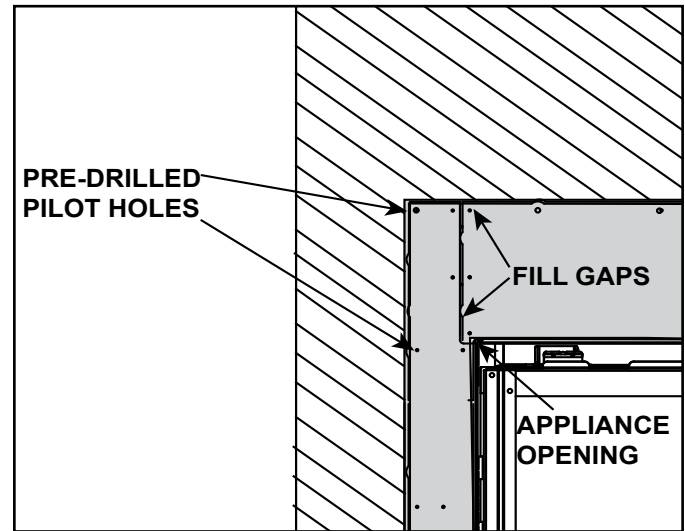

Figure 10.1 Install Non-Combustible Board
The factory-supplied non-combustible board must be used in all installations. It must be directly attached to structural framing adjacent to the appliance. Screw fasteners should be installed in the pilot holes provided in the outer perimeter of the non-combustible board. See Figure 10.1 and Figure 10.2.
3. The outer perimeter of the factory-installed non-combustible board has pre-drilled pilot holes. See Figure 10.1. Secure the non-combustible board to adjacent framing with drywall screws that are a minimum of 1-1/4 inch in length. Care should be taken not to tighten these screws into the non-combustible board excessively. Set screws flush to the face of the non-combustible board. See Figure 10.2 and Section 6.D.
4. When installing drywall around the appliance, install a rectangular hole for the fireplace/non-combustible board in a single sheet of drywall. This will minimize the joints that require finishing adjacent to the fireplace opening. Ensure that the 1/8 inch gap is maintained between the factory installed non-combustible board and the surrounding drywall. See Figure 10.1. Secure the drywall to the framing with screws a minimum of one inch in length every six inches across the top of the fireplace and every ten inches on the sides of the fireplace.
1. Fill all gaps and joints between the non-combustible board pieces and the drywall with a general purpose chemically hardening joint compound. Hearth and Home Technologies recommends Durabond® 45 Joint Compound manufactured by USG (Sheetrock® brand). Use a drywall knife to firmly press the joint compound into all gaps. See Figure 10.1. Allow these joints to dry.